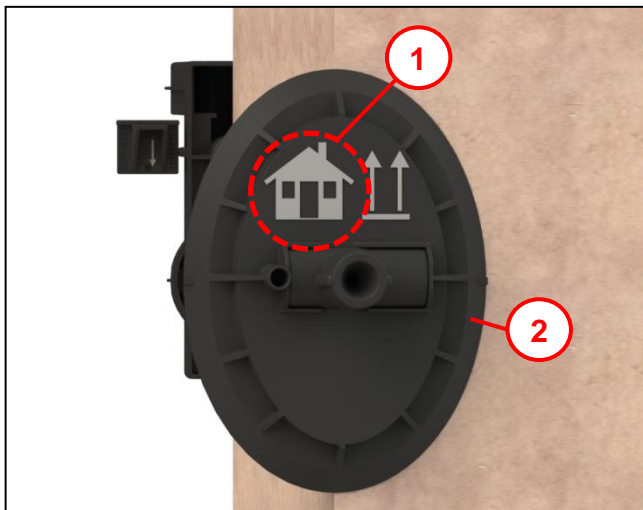

Fig. 18
- Place the foam pipe with outside flange **(1)** in the core hole and insert up to the beginning of the snap lug (note Fig. 18).
Continue with Fig. 18